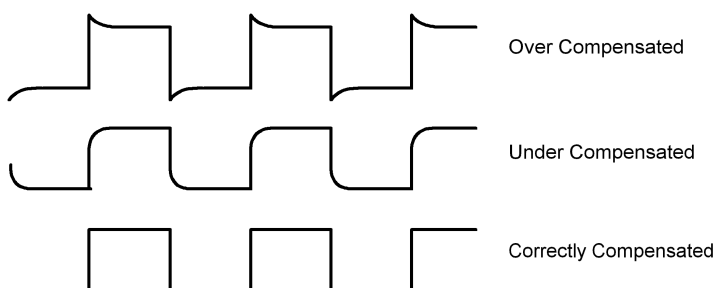

Figure 5-2 Typical compensation waveform
- 7) Observe the displayed waveform and compare it with the waveforms shown in figure 5-2. If the probe needs to be adjusted, proceed as detailed in step 8. If either probe does not need to be adjusted, proceed with “Function Check”.